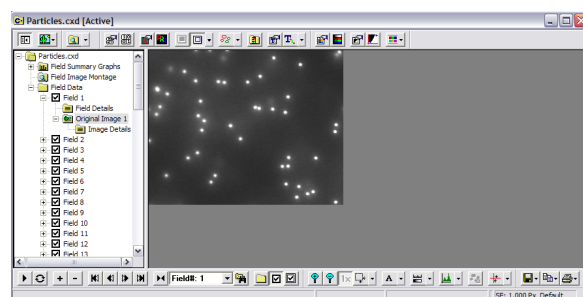
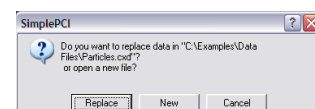

fig.7
fig.8
3. Click the **Start Collecting** icon (**fig.7**) in the Data Document toolbar, a dialog window appears (**fig.8**). Click **Replace** if you want to replace existing data. Click **New** if you want to create a new data file, click **Cancel** to cancel the process.